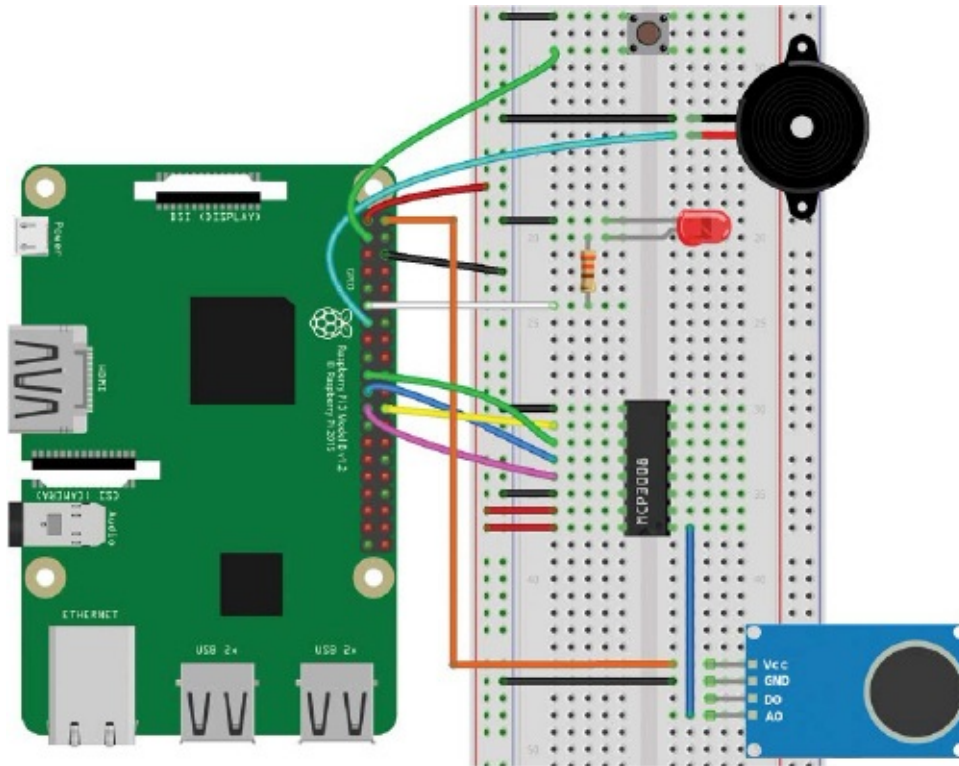

FIGURE 11-3: Smoke and gas detector circuit diagram
To build the smoke and gas detector alarm circuit, you need to connect an LED and a pushbutton to the Pi; you should already know how to wire these from previous projects. You also need to connect the piezo buzzer and the MQ-2 sensor to the Pi—the latter will connect through the MCP3008 chip). Follow these instructions, using Figure 11-3 as a reference.
2. Place the MCP3008 chip in the middle of the breadboard so that the legs run parallel on either side of the center divide, as shown in Figure 11-3, and wire it according to the following table.